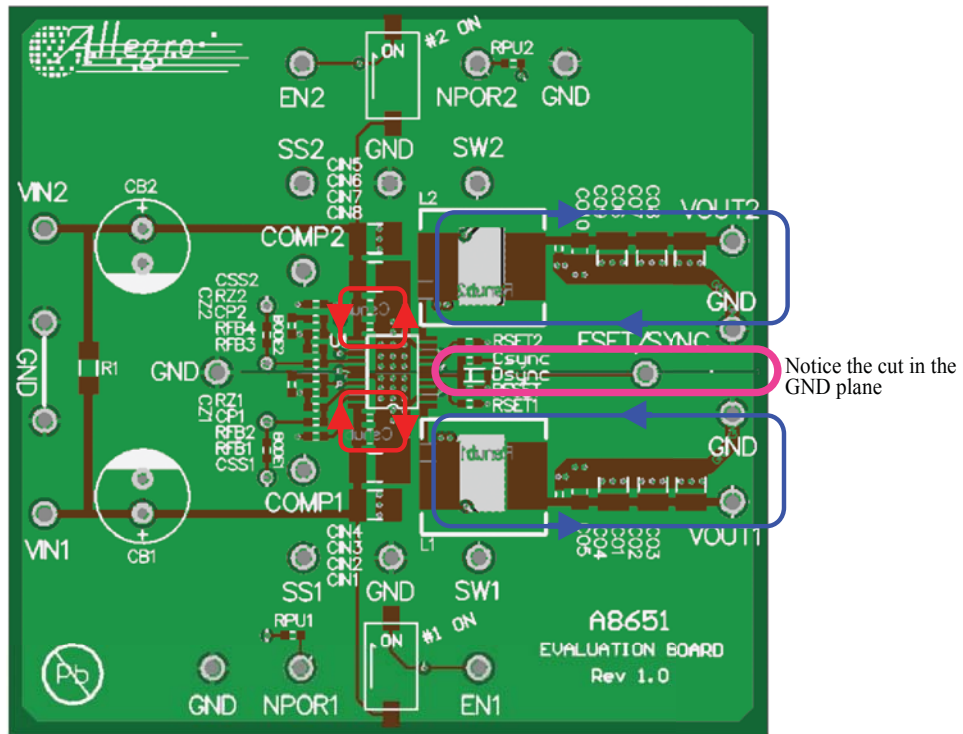

Figure 17: Example PCB component placement and routing
A good PCB layout is critical if the A8651 is to provide clean, stable output voltages. Follow these guidelines to insure a good PCB layout. Figure 16 shows a typical buck converter schematic with the critical power paths/loops. Figure 17 shows an example PCB component placement and routing with the same critical power paths/loops from the schematic.
12. Allegro strongly recommends the use of current steering (a cut in the ground plane) to prevent current from SW1 from disturbing SW2 and vice versa. Notice the horizontal cut in the ground plane as shown in figure 17.